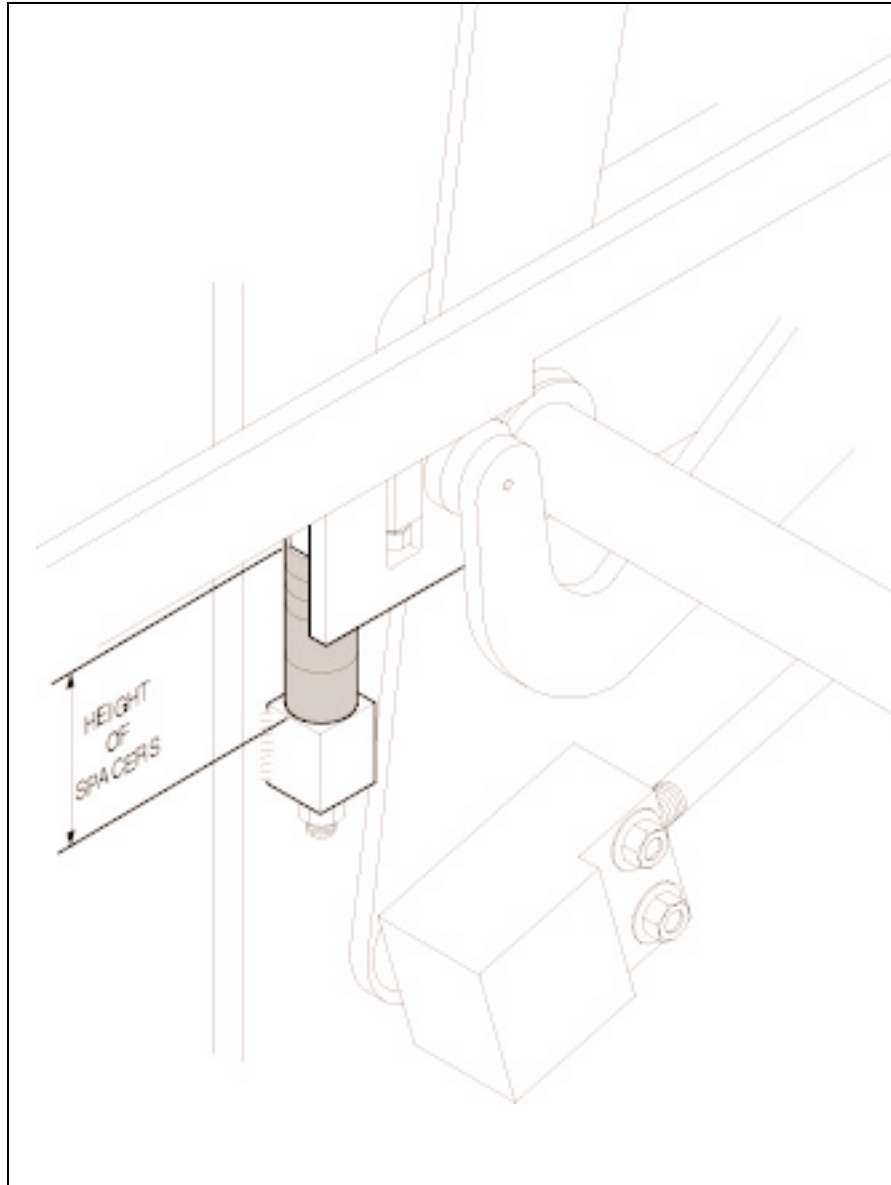

Figure 4.10 MEASURING COLUMN OF SPACERS
- 4.1.17 Measure the column of spacers supporting the pallet feeder assembly (at all four corners): if column is **8 3/4" [222mm]** high, go to step 4.1.27. If not, go to step 4.1.18 (see figure 4.10).